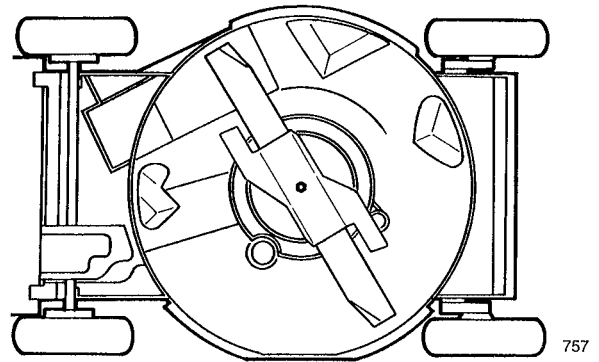

Figure 24
3. Tip mower on its left side (Fig. 24). Avoid rotating the blade because starting problems may result.